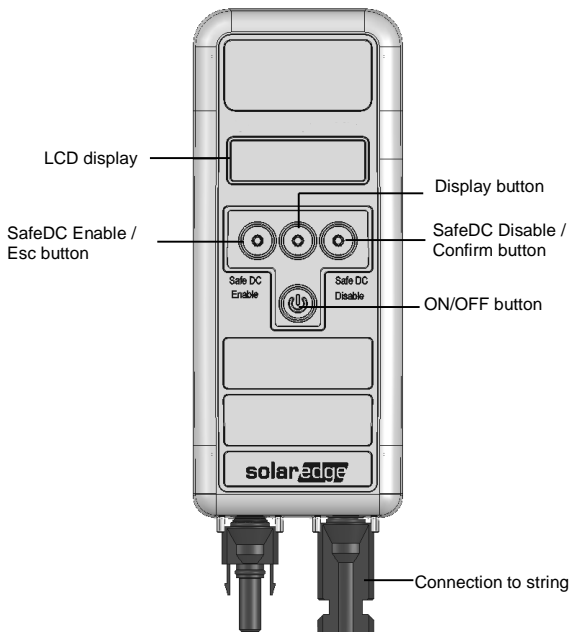

Figure 1: SolarEdge Key interface
- 1 Connect the string cables to the two connectors at the bottom of the SolarEdge Key (see Figure 1).